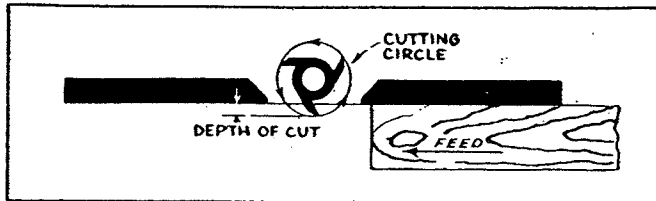

Fig. 24
1. For average work, where a portion of the original edge of the work is not touched by the cutter, both the front and rear fences are in a straight line, as shown in Fig. 24.